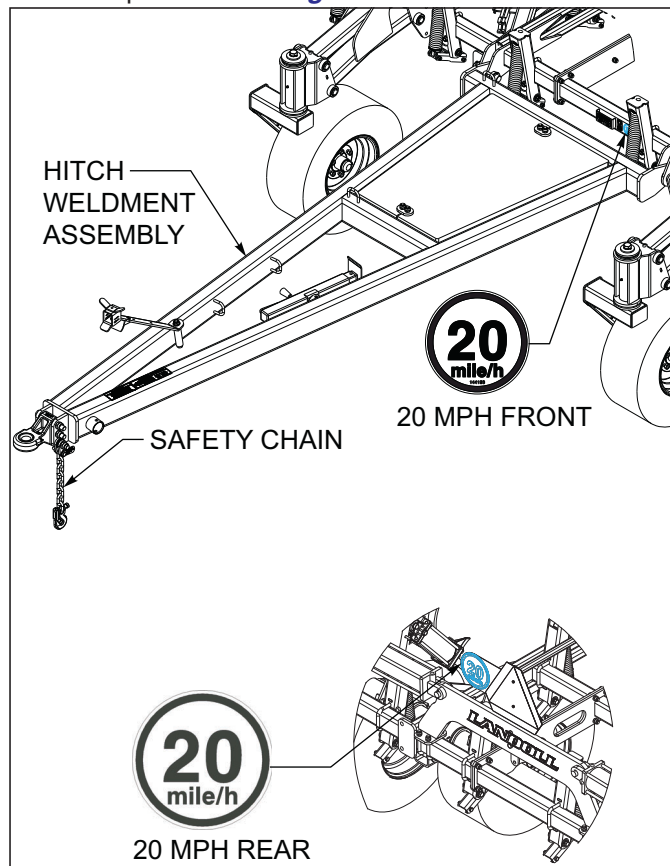

Figure 4-5: Hitch, Speed Identification Symbol, and Safety Chain
2. The Field Cultivator should be transported only by tractor required for field operation. The implement weight should not exceed more than 1.5 times the tractor weight. Unless noted on the implement, maximum transport speed is 20 mph for the implement and is designated on the speed identification symbol located on the front and rear of the implement **See Figure 4-5**.
8. Attach the safety chain to the tractor drawbar, refer to the tractor operator's manual for proper placement, **See Figure 4-5**. Provide only enough slack in the chain for turning. Do not use an intermediate chain support as the attaching point for the chain on the tractor. Do not pull the implement by the safety chain.